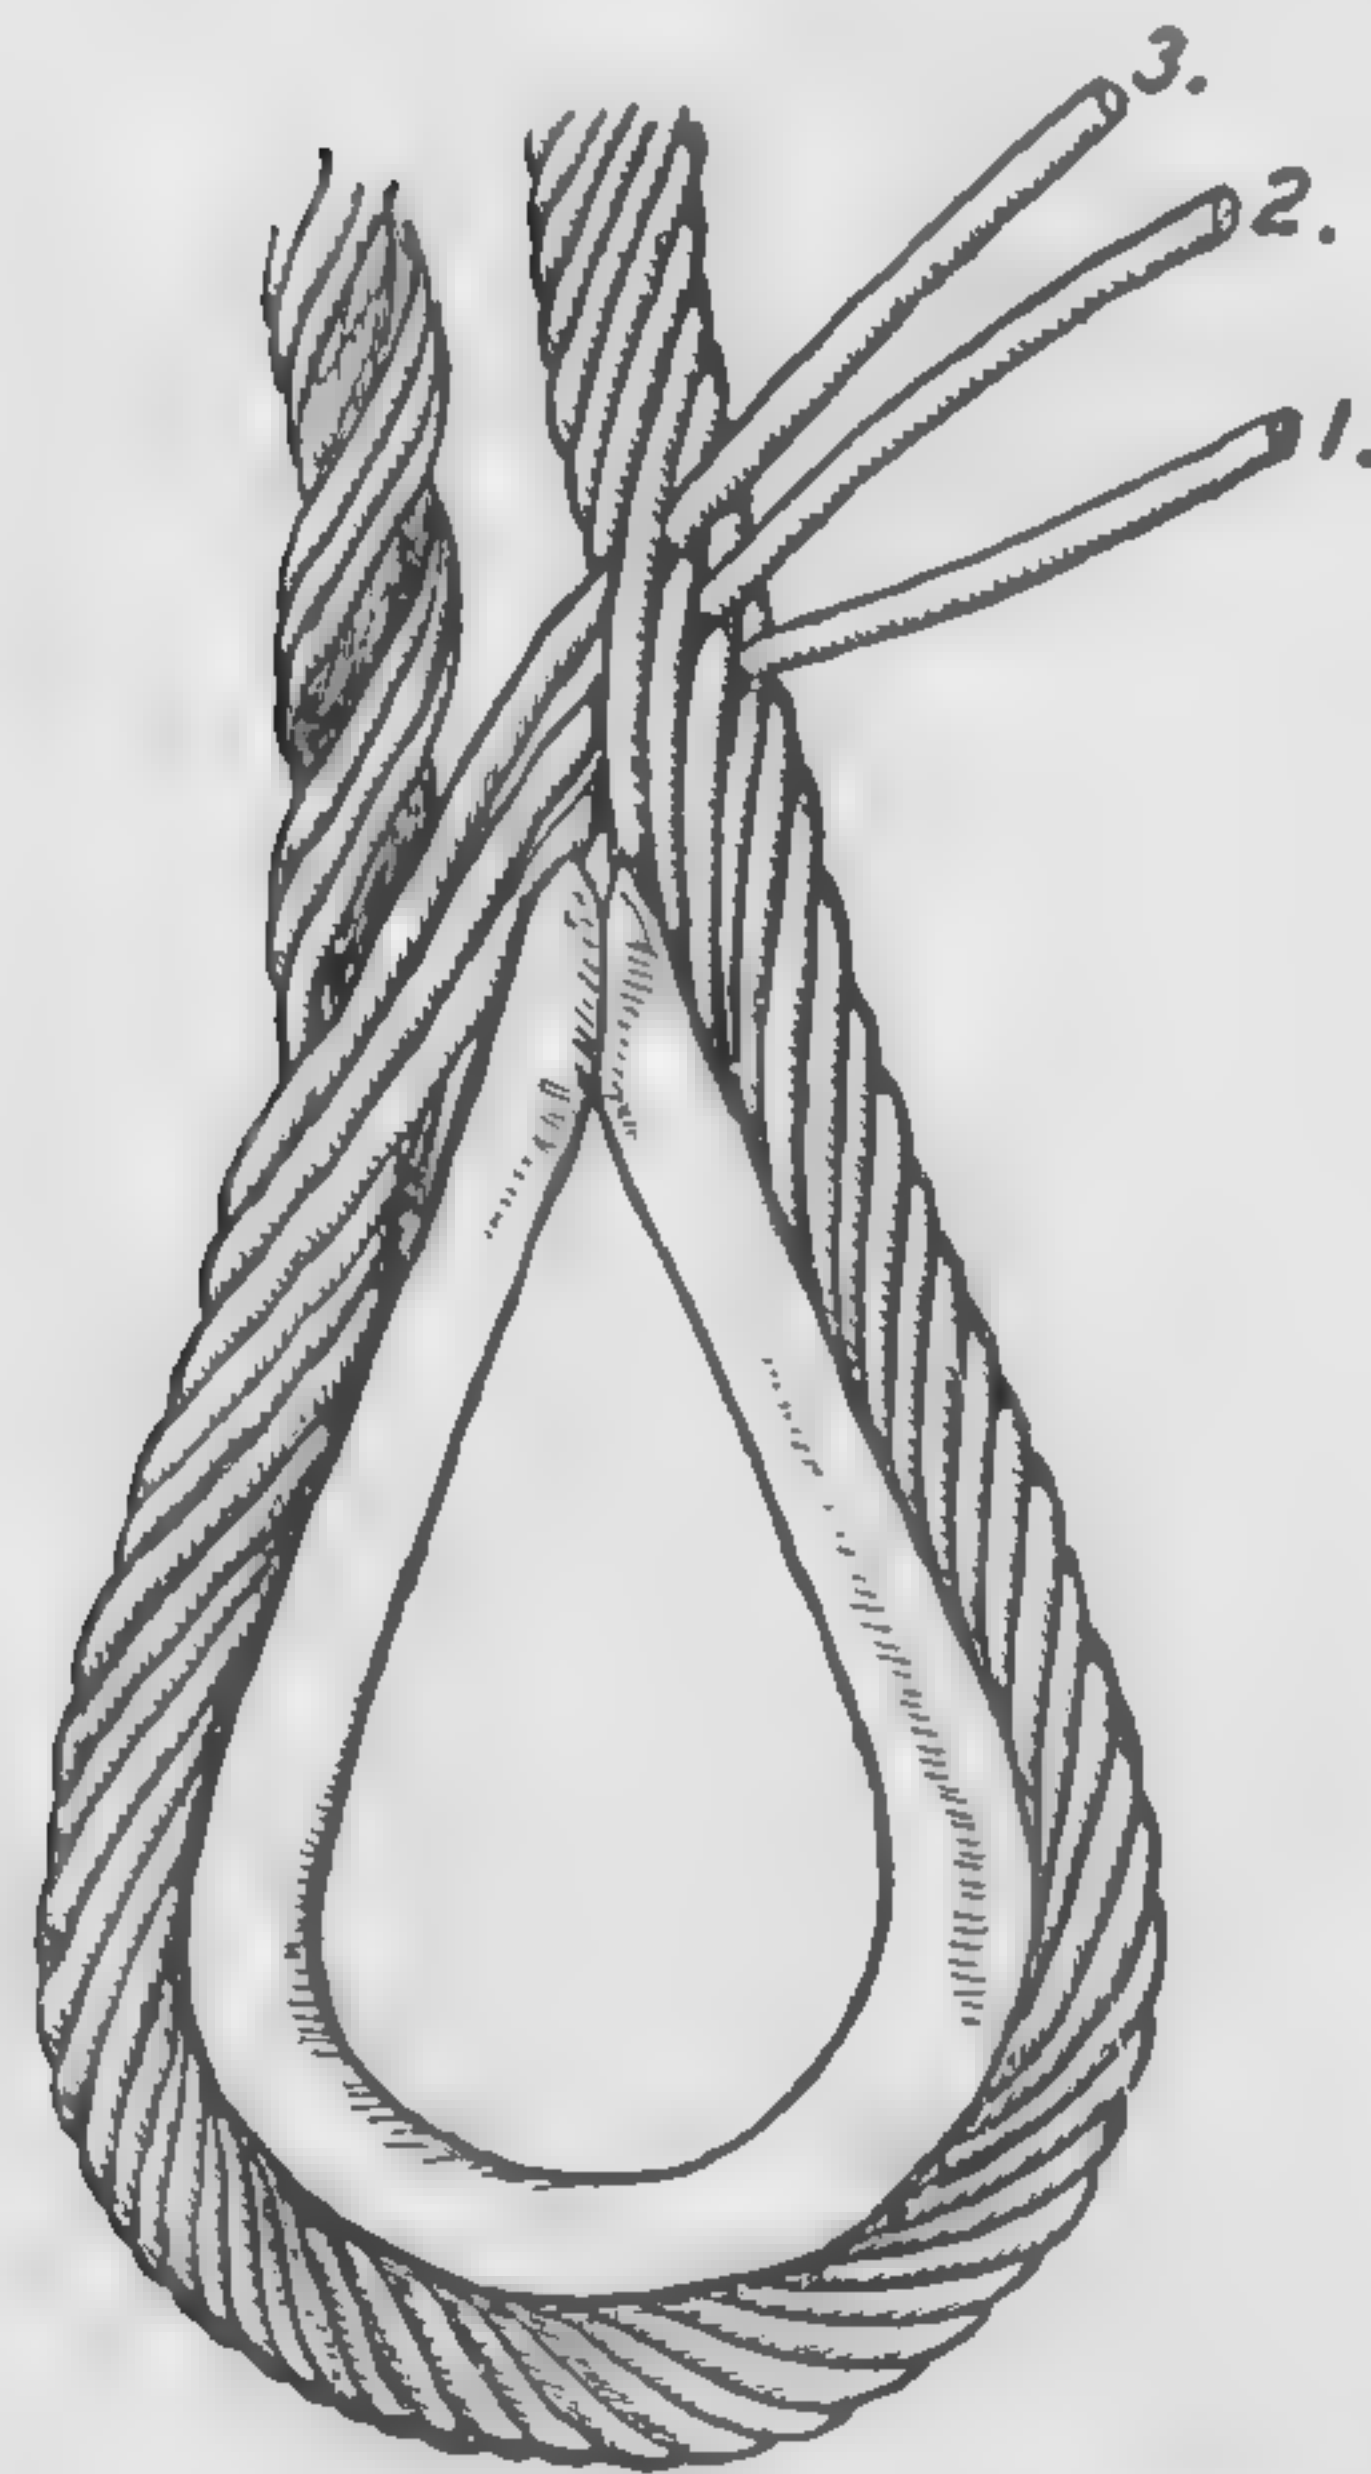

Fig. 15. Step 3 of the First Tuck
Step 3. Loosen the next strand to the left. This is strand No. 3. Strand No. 3 goes in the same place as strands No. 1 and No. 2, except under one strand, as in Fig. 15.